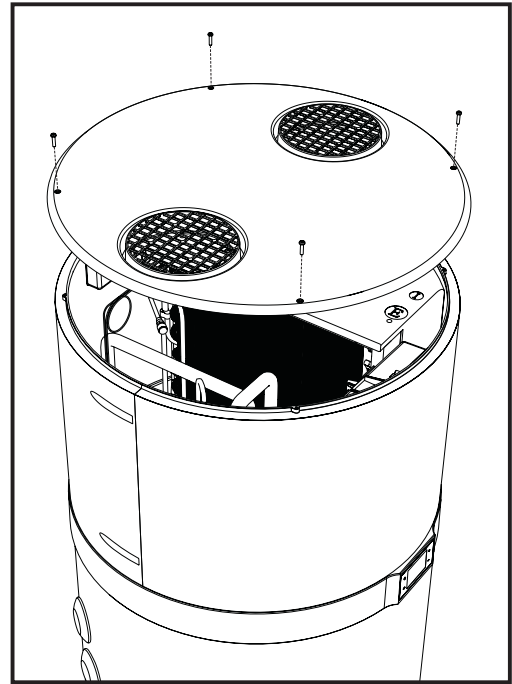

fig. 41 - Top cover removal
- Remove the top cover by first undoing the locking screws (fig. 41).